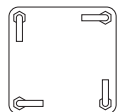

Figure 2
2. Assemble anchor system as follows: Thread nut (#45) to bottom of threads on anchor bolt (#50) insert threads of anchor bolt (#50) through hole on anchor plate (#49) and secure with nut (#45). Repeat this step for the remaining anchor bolts. See Figure 2. Note: Each leg of anchor bolts should face the anchor bolt to the right. See Detail A.